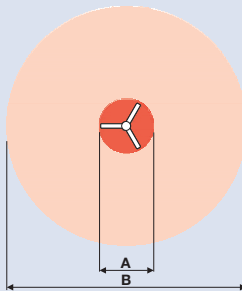

Fig. 17: Area of effect of a ceiling fan in heat recirculation in winter
The highest air velocity (Fig. 17) also prevails during heat recirculation with ceiling fans in winter directly under the fan's blade radius (A). The effective area, i.e. the surface area for heat recirculation in winter, is 4.5 times the diameter of the fan (B), which is considerably larger than the effective area for summer ventilation.